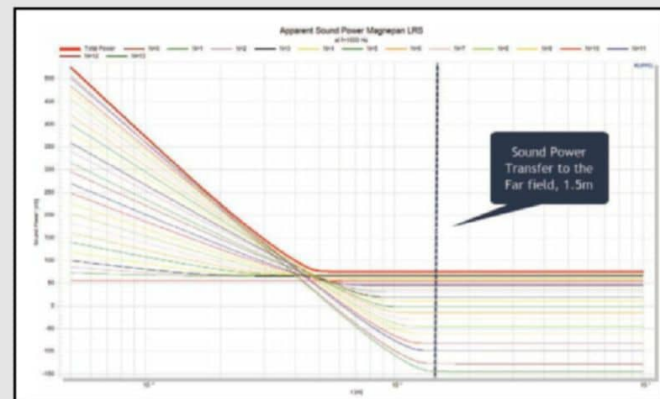

Figure 3: Apparent sound power transitioning from near- to far-field
Figure 3 details sound power (Y) over distance (X, in meters) as the spherical harmonics increase (N) in ascending order. The near-field is characterized by a high amount of reactive power represented by high order Hankel functions. As seen in the graph, the near-field effects decrease over distance as it transitions into the far-field. After the transition, apparent sound power begins to be consistent as velocity and sound pressure become in phase with each other. This point of consistency is where the far-field begins.